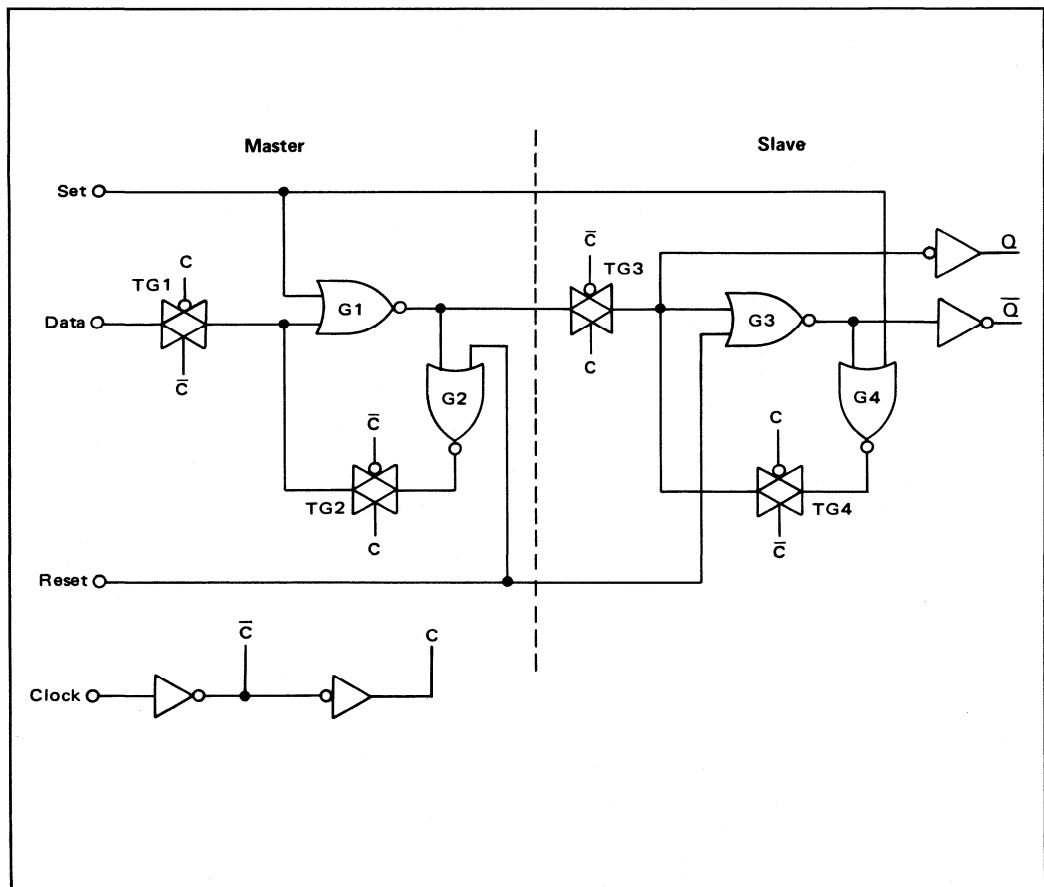

FIGURE 2-35 – McMOS TYPE D FLIP-FLOP
The transmission gate is a valuable tool used for accomplishing many CMOS technology MSI and LSI designs. An illustration of using the basic transmission gate is provided in the McMOS MC14013, Type-D flip-flop as shown in Figure 2-35. The flip-flop works on the Master/Slave principle and consists of four transmission gates (TG). Four NOR gates, two inverters, and a clock buffer/inverter, comprise the configuration. When the clock is a logic "0", transmission gates TG2 and TG3 are OFF and 1 and 4 are ON. In this condition, the Master is logically disconnected from the Slave. With TG4 ON, gates G3 and G4 are cross-coupled and latched in a stable state. Assuming that the Set and Reset inputs are low, the logic states of gates G1 and G2 are determined by the logic signal applied to the Data input. When the clock changes to a logic "1", TG2 and TG3 turn ON and TG1 and TG4 turn OFF. Gates G1 and G2 are cross-coupled through TG2 and latch into the state they held at the time the clock changed from a "0" to a "1". With TG3 ON, the logic state of the Master section (output of gate G1) is fed through an inverter to